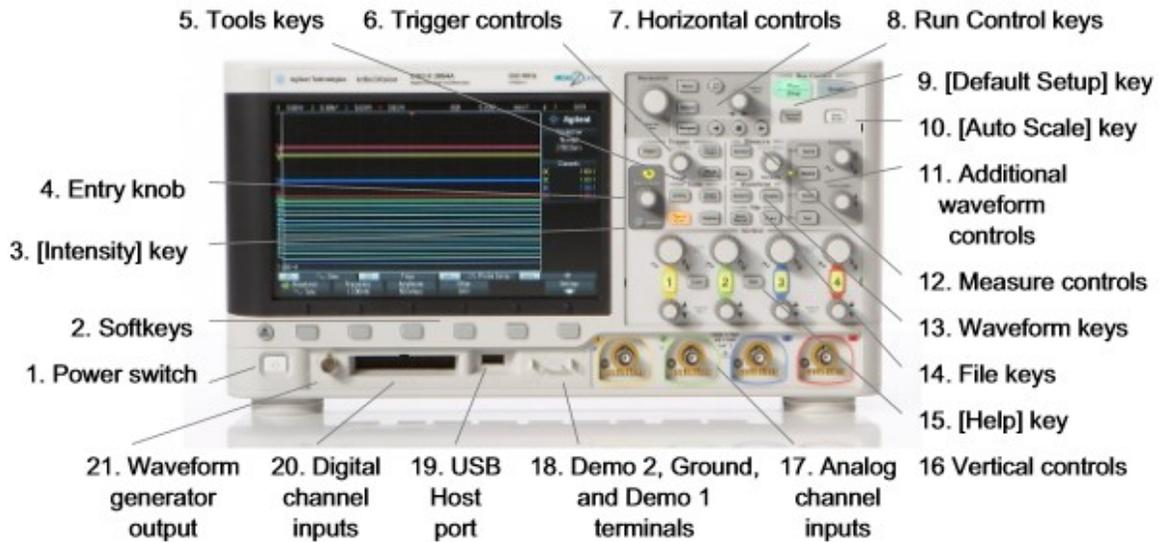

Figure 1
The MSO-X-3024A is the third generation Mixed Signal Oscilloscope (MSO) from Agilent. This model has advanced triggering features and updated display features. Otherwise that is it is equivalent to the older Agilent model. Figure 1 shows the user interface
Digital channel inputs (20), Trigger controls (6), Soft Keys (2) and Tool keys (5) as shown in figure 1.